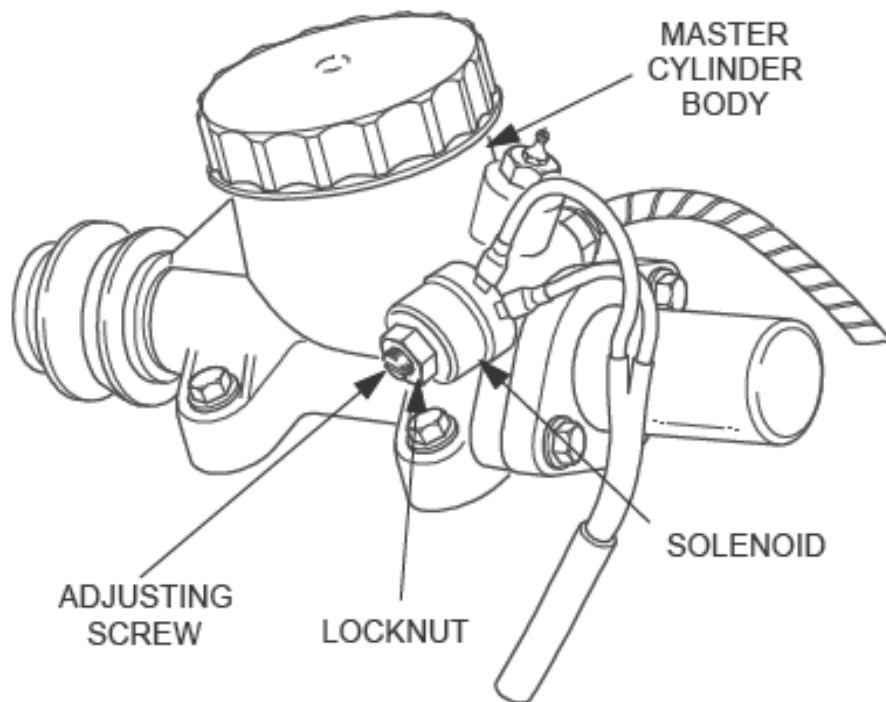

Figure 7 Master Cylinder Solenoid – Adjustment
- (1) When completing a standard adjustment, loosen the solenoid lock nut and screw the adjusting screw in until the valve bottoms (Figure 7).
- (2) When completing an adjustment after installation of an overhaul kit, loosen the solenoid lock nut and screw the adjusting screw in until it will not turn any further (Figure 7).